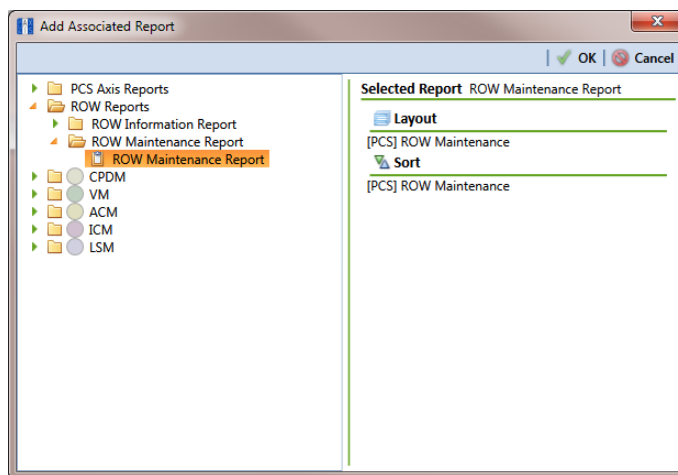

Figure 12-9. Add Associated Report
- a** Click  **Add Associated Report** to open the *Add Associated Report* window (Figure 12-9, page 506).
For example, double-clicking  **ROW Reports** >  **ROW Maintenance Report** displays a list of reports available for selection (Figure 12-9, page 506).
- c Select a report in the list to move it to the *Selected Report* panel and then click  **OK** (Figure 12-9).